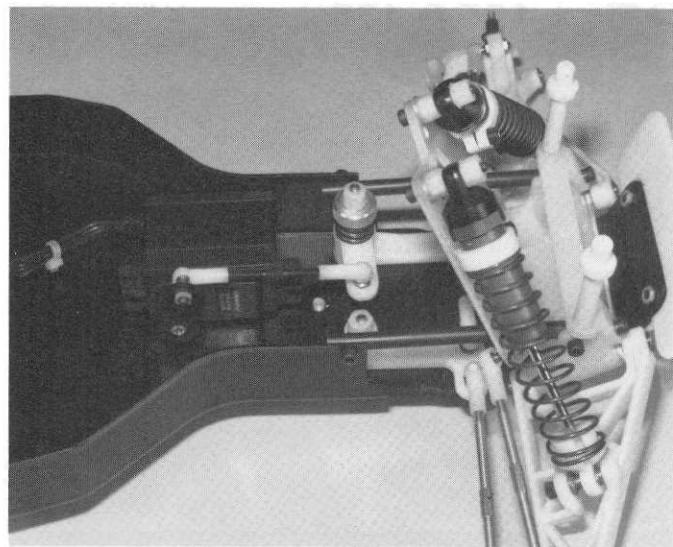

Fig. 133
STEP 7—Are your wheels now pointed straight forward? If not, refer to Fig. 133 and adjust the turnbuckle to correctly loosen the two linkage set collars, center the wheels, then re-tighten the collars.